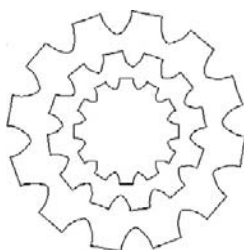

FIGURE 25.31
- Step 3.** Carefully place the three profiles one on top of another using their center points and rotate profiles 2 and 3 (the medium and the largest ones) 10° and 20°, respectively, as seen in Figure 25.31.